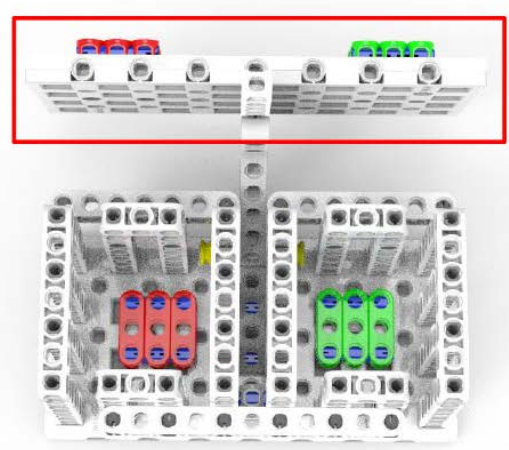

Figure 3-3-2 Waste Sorting Task Model Finished Status
3.3.2 Finished status 1: Completely open the dustbin lid by using the handle (40 points). Completely open means that the vertical projection of the dustbin lid can't coincide with the dustbin, as shown in the red box in figure 3-3-2. If the robot didn't open the dustbin lid, no points will be scored.